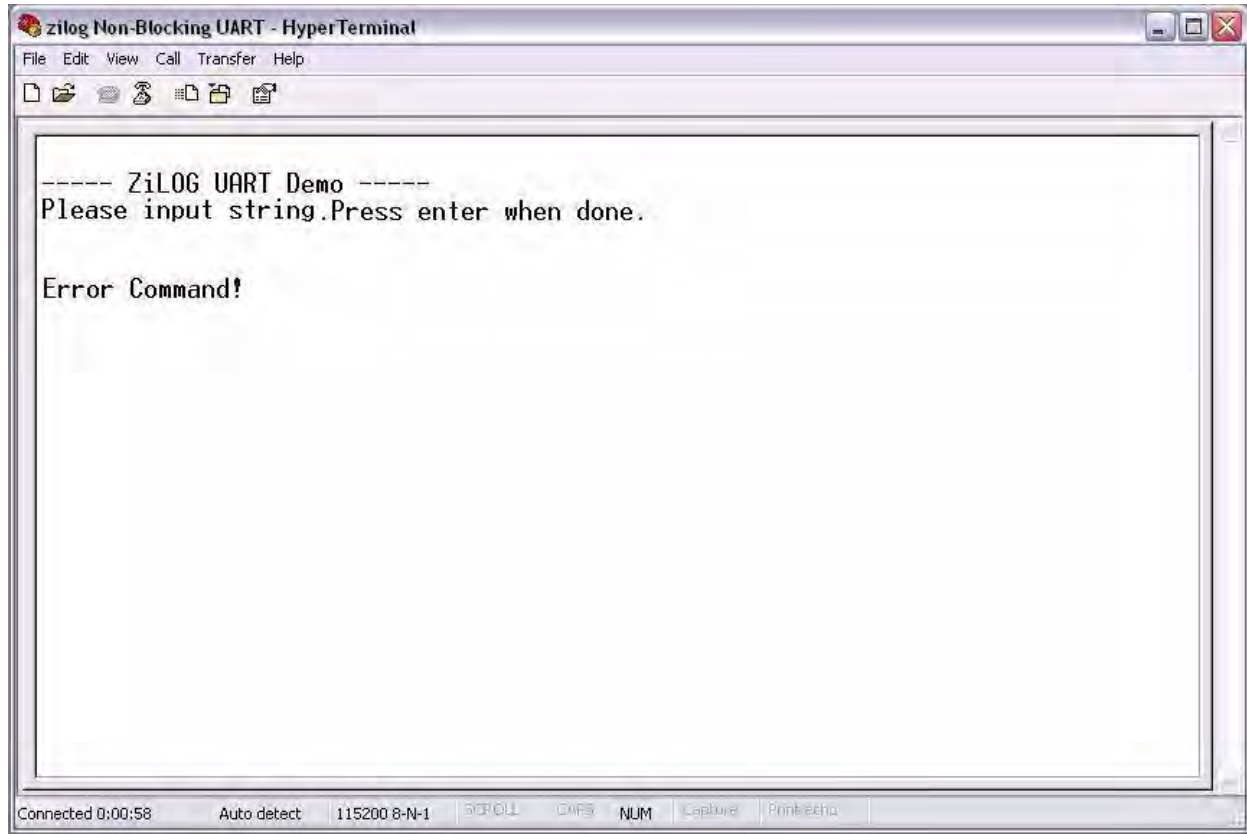

Figure 18. The Error Command Message
18. Press the Tab key, then enter any alphabetic characters of any length and press Enter. An `Error Command!` notification will appear in the HyperTerminal window, as shown in Figure 18.